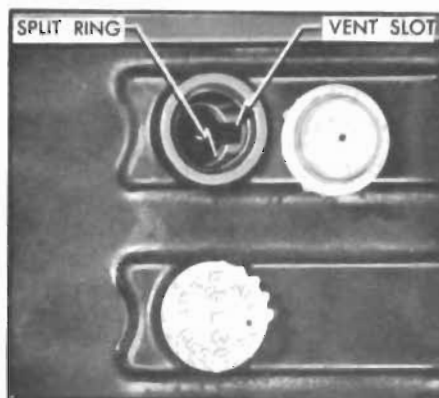

Figure 1-2—Battery Filler Well
**NOTE:** Do not overfill. Clean top of battery; if wet with acid, neutralize with soda and wash clean. See Figure 1-2.